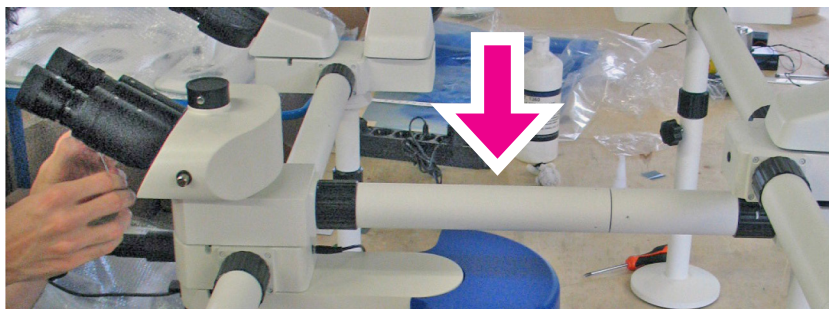
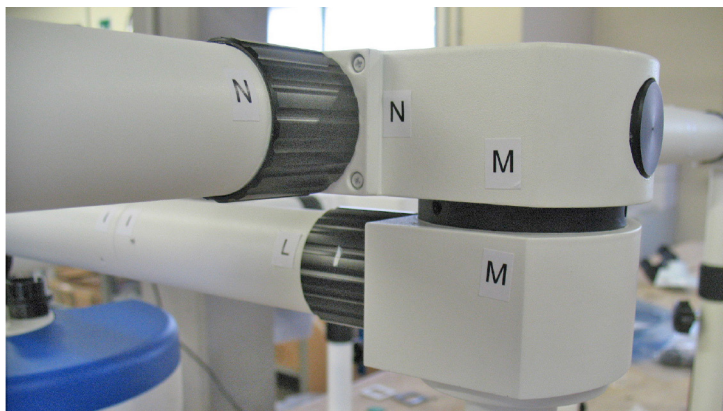

Fig. 11
Fig. 12
- 2.13 (only B-1000Ti-10) mount the second splitter attachment over the pointer attachment, then fix the extension tube rotating the black ring nut (always following the coupling catters): Fig. 11 and Fig. 12